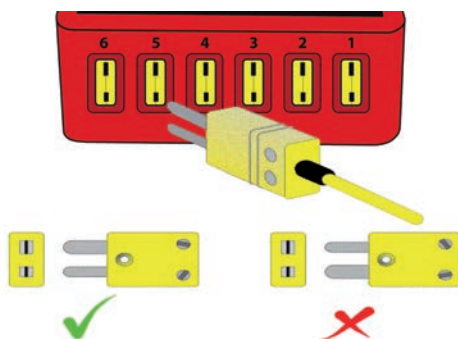

Figure 2
**N.B.:** The pins of the thermocouple plug are different in width and can only be plugged-in in one way, see Figure 2.